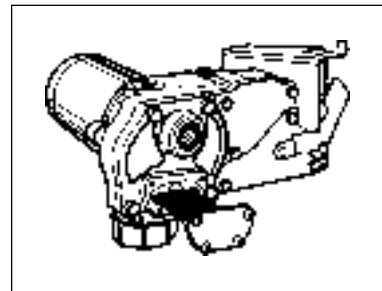

Figure 5
3. Remove the inlet strainer and inspect for damage or debris. (Figure 5)